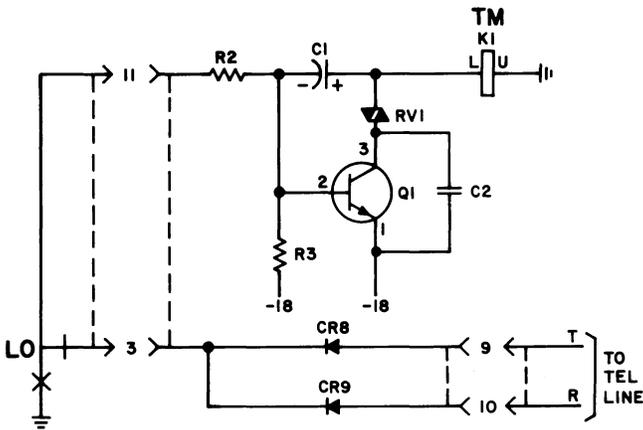

Fig. 10—Tip Monitor—Schematic Diagram
3.25 Figure 10 is a schematic diagram for the tip monitor circuit. The tip monitor circuit is composed of a diode gate (CR8 and CR9) and relay driver Q1. If a voltage more positive than -18 volts (ie, a voltage near ground potential) is applied to either terminal 9 or 10, Q1 is turned on and the TM relay is operated. An external relay contact that provides a ground to pin 11 can also be used as an override means of operating the relay. Capacitor C1 prevents operation of the TM relay on short ground pulses and prevents release of the relay during very brief ground interruptions. Capacitor C2 suppresses parasitic oscillations.